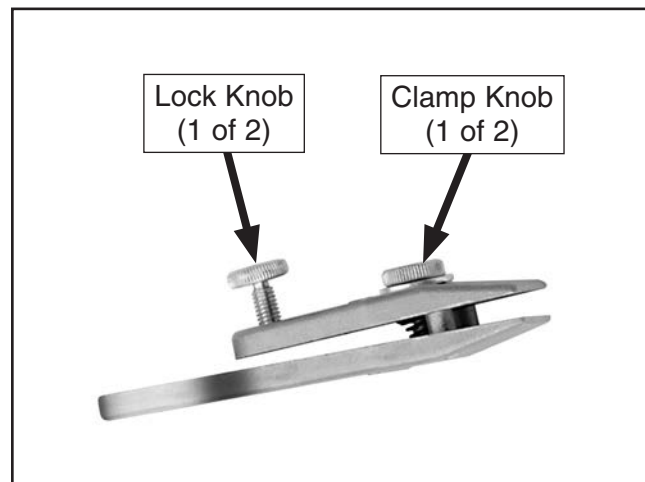

Figure 4. Clamp components.
4. Loosen (2) clamp knobs on clamp enough to allow one blade of scissors or shears to slide in (see **Figure 4**).
5. Loosen (2) lock knobs on clamp enough so they do not extend through upper portion of clamp (see **Figure 4**).